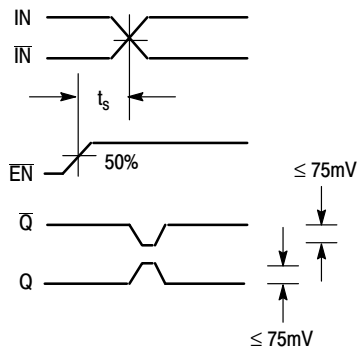

Figure 3. Setup Time
5. The setup time is the minimum time that EN must be asserted prior to the next transition of IN/ $\bar{IN}$  to prevent an output response greater than  $\pm 75\text{ mV}$  to that IN/ $\bar{IN}$  transition (Figure 3).
- The setup time is the minimum time that  $\overline{\text{EN}}$  must be asserted prior to the next transition of  $\text{IN}/\overline{\text{IN}}$  to prevent an output response greater than  $\pm 75\text{ mV}$  to that  $\text{IN}/\overline{\text{IN}}$  transition (Figure 3).